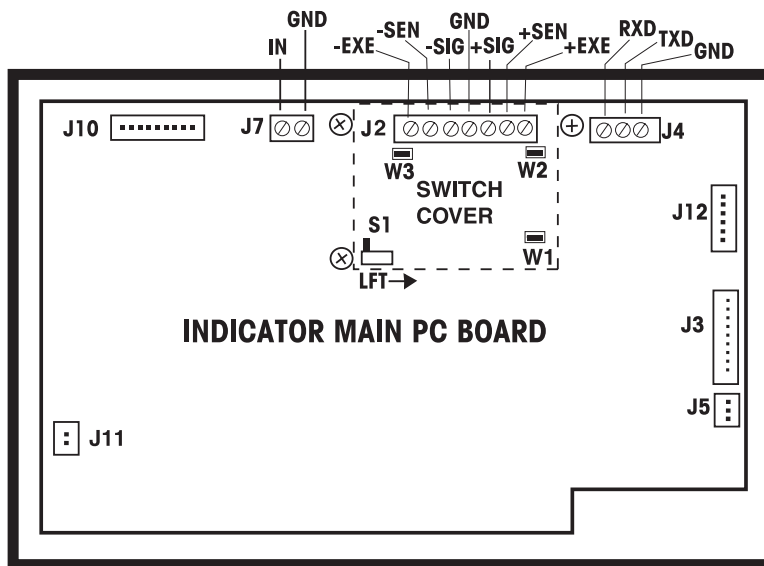

Figure 3-12. Main Printed Circuit Board.
3. See Figure 3-12 and remove the switch cover. Retain the screws and cover.
4. Refer to the manufacturer's wiring code of the load cell cable and connect the wires to Terminal Strip J2 according to the proper signal names. See Figure 3-12. Tighten all terminal screws securely.
5. When connecting a 2 mv/v load cell: Jumper W1 is to be left in place shorting the two pins. See Figures 3-12 and 3-13.